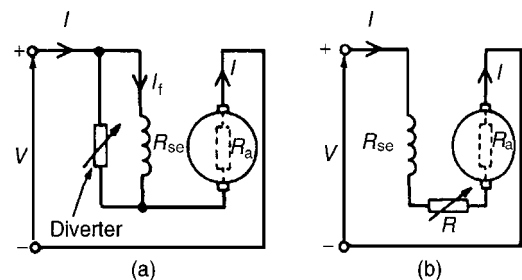

Figure 22.30
where k is a constant, V is the terminal voltage, R is the combined resistance of the armature and series field and Φ is the flux. Thus, a reduction in flux results in an increase in speed. This is achieved by putting a variable resistance in parallel with the field winding and reducing the field current, and hence flux, for a given value of supply current. A circuit diagram of this arrangement is shown in Fig. 22.30(a). A variable resistor connected in parallel with the series-wound field to control speed is called a **diverter**. Speeds above those given with no diverter are obtained by this method. Problem 29 below demonstrates this method.
- (b) Speeds below normal are obtained by connecting a variable resistor in series with the field winding and armature circuit, as shown in Fig. 22.30(b). This effectively increases the value of R in the equation
With the 0.2Ω diverter in parallel with R_{se} (see Fig. 22.30(a)), the equivalent resistance,
$$I_1 \text{ (in Fig. 22.30(a))} = \left(\frac{0.2}{0.2 + 0.05} \right) I = 0.8 I$$
With reference to Fig. 22.30(b), at 800 rev/min,